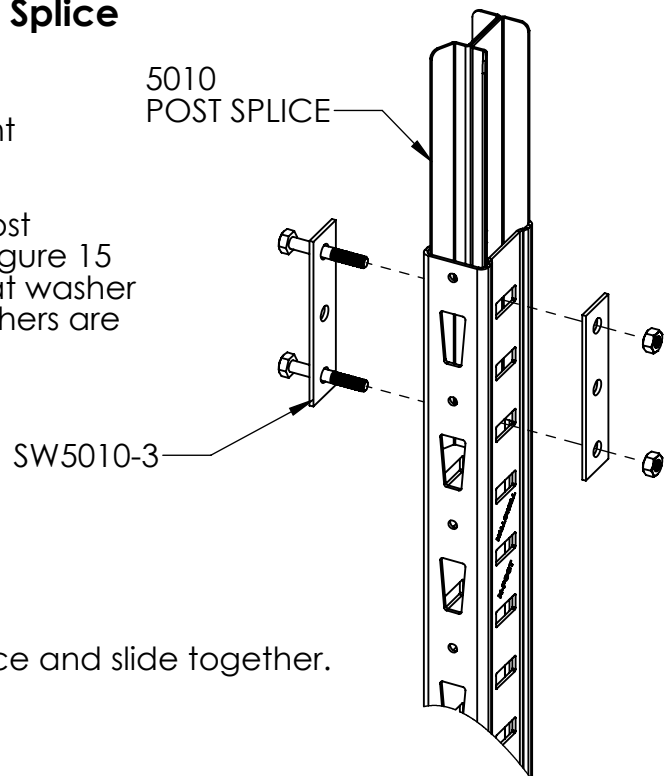

FIGURE 15
**1Q.** Insert post splice into top of lower post so that the "Y" shaped part is facing the front of the post. Figure 15
**2Q.** Align hole in post with the hole in the post splice piece so that the splice is exposed, Figure 15. Attach with 1/4-20 x 2" hex head bolt, sq. flat washer and nut. Four bolts, four nuts, and 4 flat washers are provided with each splice.